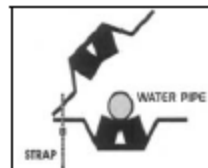

Figure 11 Step 1
- 14.1 Route strap through holes at one end of RWE unit, and loop through locking device pulling strap almost tight. See Figure 11.